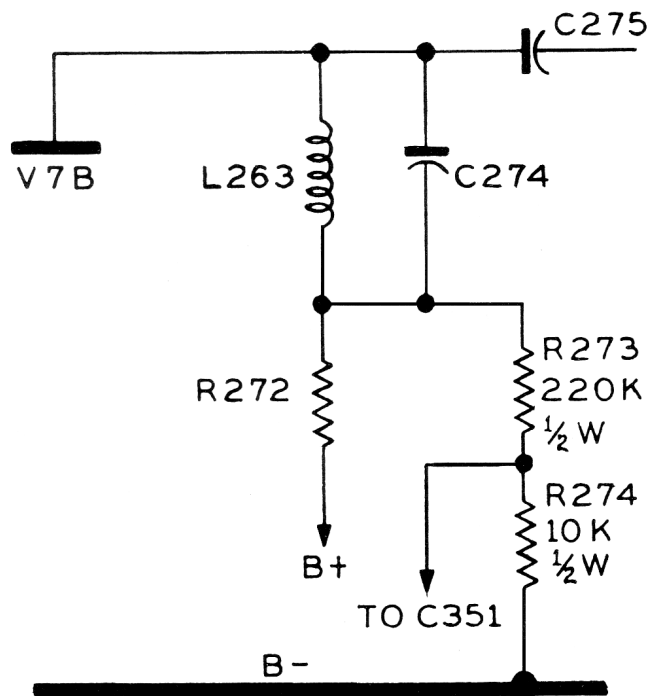

Fig. 31
1. A few receivers at the start of production used the circuit as shown in Fig. 31 for sync signal take-off to the sync amplifier. To provide better horizontal sync pulse shape, this circuit was later changed to that shown in the Schematic Diagram Figure 32. This change is incorporated in receivers with the letter "Z" stamped on the back apron of the chassis and on the cabinet back.